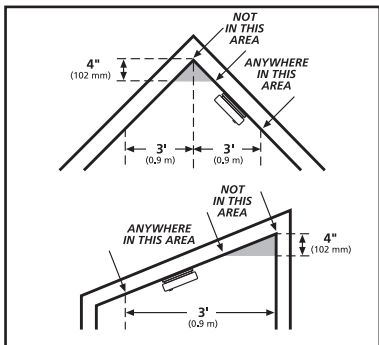

FIGURE 3
- Install Smoke Alarms on sloped, peaked or cathedral ceilings at or within 3ft (0.9m) of the highest point (measured horizontally). NFPA 72 states: "Smoke alarms in rooms with ceiling slopes greater than 1 ft in 8 ft (.3m in 2.4 m) horizontally shall be located on the high side of the room." NFPA 72 states: "A row of detectors shall be spaced and located within 3 ft (0.9m) of the peak of the ceiling measured horizontally" (see figure 3).